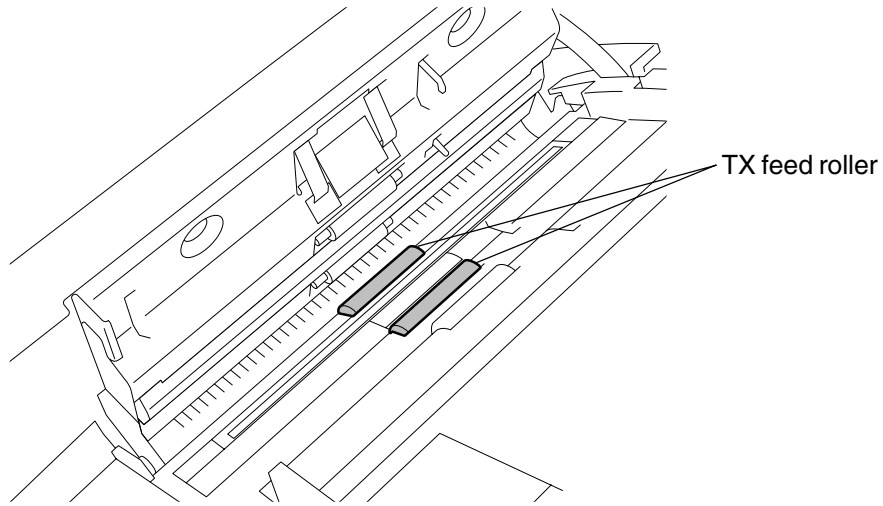

Fig. 10-2-5
5. Tx feed roller (refer to Fig.10-2-5)